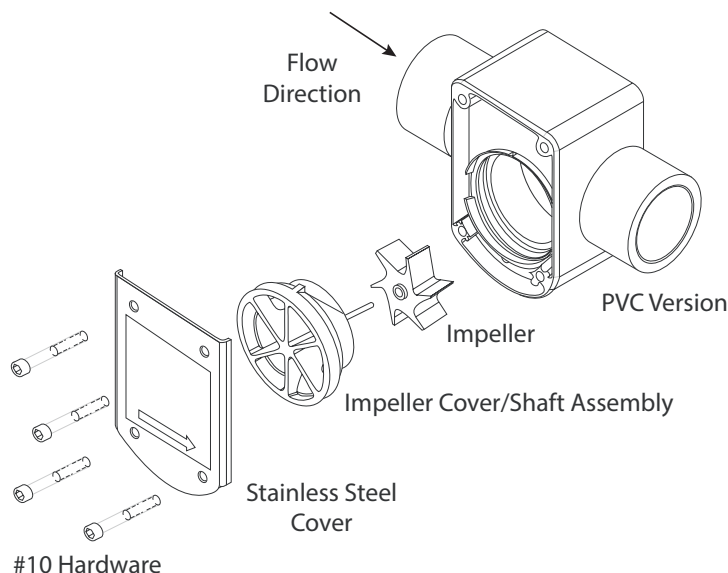

Figure 2: Assembly and shaft replacement
6. Insert the impeller into the cavity of the sensor housing, making sure the six blades are pointing into the flow direction. The unit does not operate if the impeller is positioned incorrectly. For example, if flow direction is to the right, position the impeller with blades pointing to the left. See Figure 2.